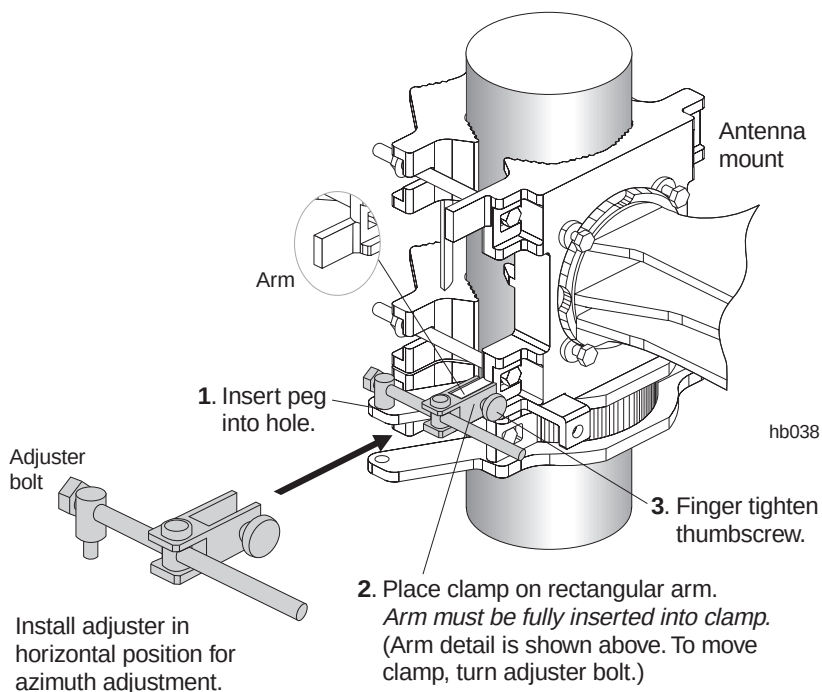

Figure 6-23 Installing the first adjuster, for azimuth adjustment
1. Install the azimuth adjuster as shown in figure 6-23.